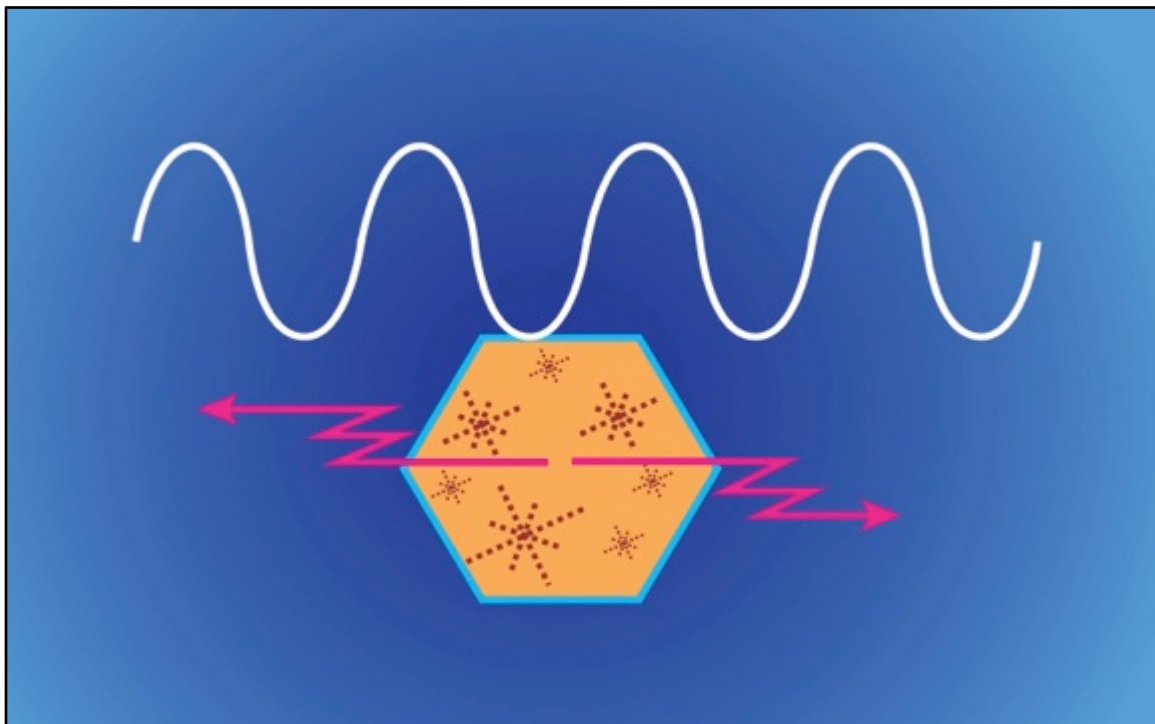

Figure 13. Piezoelectric Effect
- It is important to state that quartz crystals do not create energy they just convert one kind of energy into another. Alternately compressing and releasing quartz crystals by a vibrational (frequency) type of energy will convert this energy into an electromagnetic energy (Figure 13). Remember the old crystal radio receiver/crystal set from the early days of radio that only used power from received radio signals?